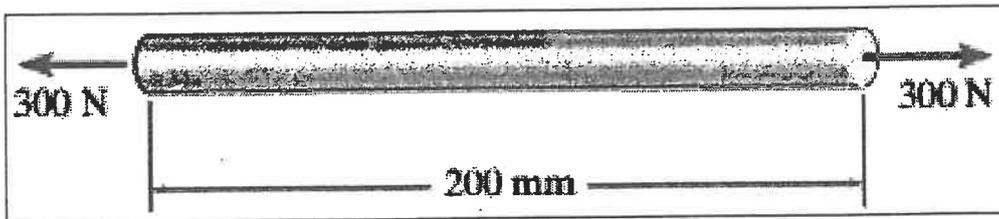

Figure1
- (a) Figure 1 shows an acrylic rod 200 mm long and 15 mm in diameter. An axial load of 300 N is applied to the rod and E_p is given by 2.70 GPA and $\nu_p = 0.4$. Determine the change in its length and diameter.